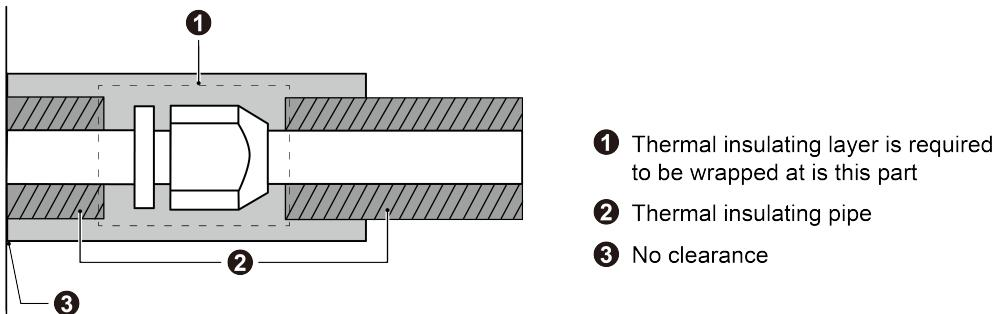

Fig.3.4.8
2) Joints at indoor and outdoor units should be wrapped with insulating material and leave no clearance between pipe and wall. See Fig.3.4.8.